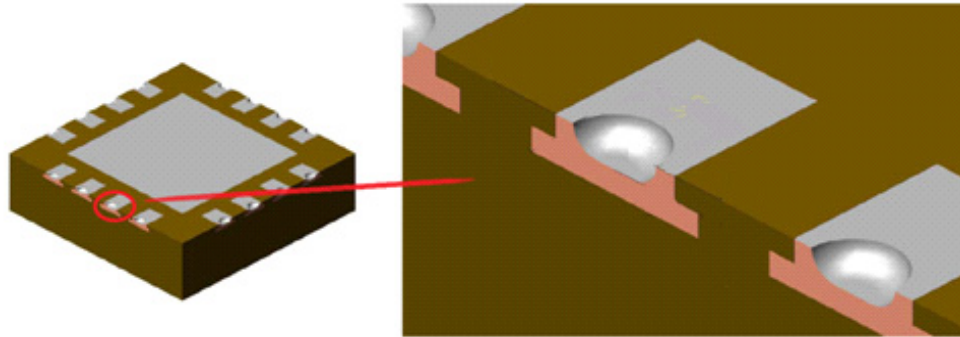
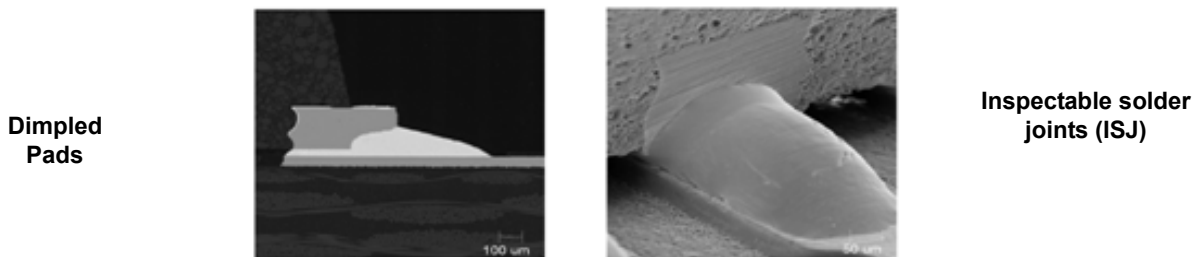

Figure 8. 16-lead QFN Dimpled Pads (6 x 6 mm)
Figure 9. SEM Images of Dimpled Pads and Inspectable Solder Joints (ISJ)
Freescal QFN wettable flanks (WF) are mechanical modifications to the exposed surface of QFN lead ends that are formed during the half-etching step of the lead frame fabrication process. One version of the WF solutions is dimpled pad (**Figure 8**). Used with an optimized board mount process, dimpled pad improves the ability to inspect the solder joints and promotes formation of the inspectable solder joints (ISJ). The ISJ can be formed and should be visible on the PCB after the solder reflow process, shown in **Figure 9**. However, Freescale will not guarantee the forming of ISJ for QFN WF packages in a board mount process. Fillet size and shape are highly dependent upon solder paste, stencil opening, board layout, and reflow profile. To get optimal results, follow the guidelines in section "**PCB Pad Design**," on page 8.